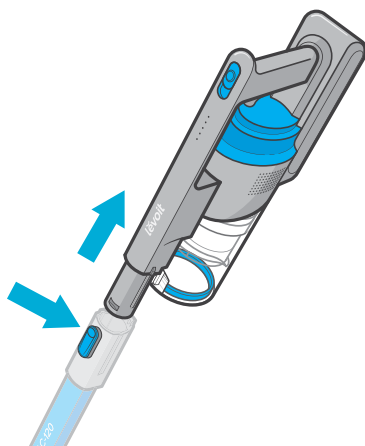

Figure 2.1
1. Press and hold the vacuum body release button and gently pull the vacuum body from the stick [\[Figure 2.1\]](#).